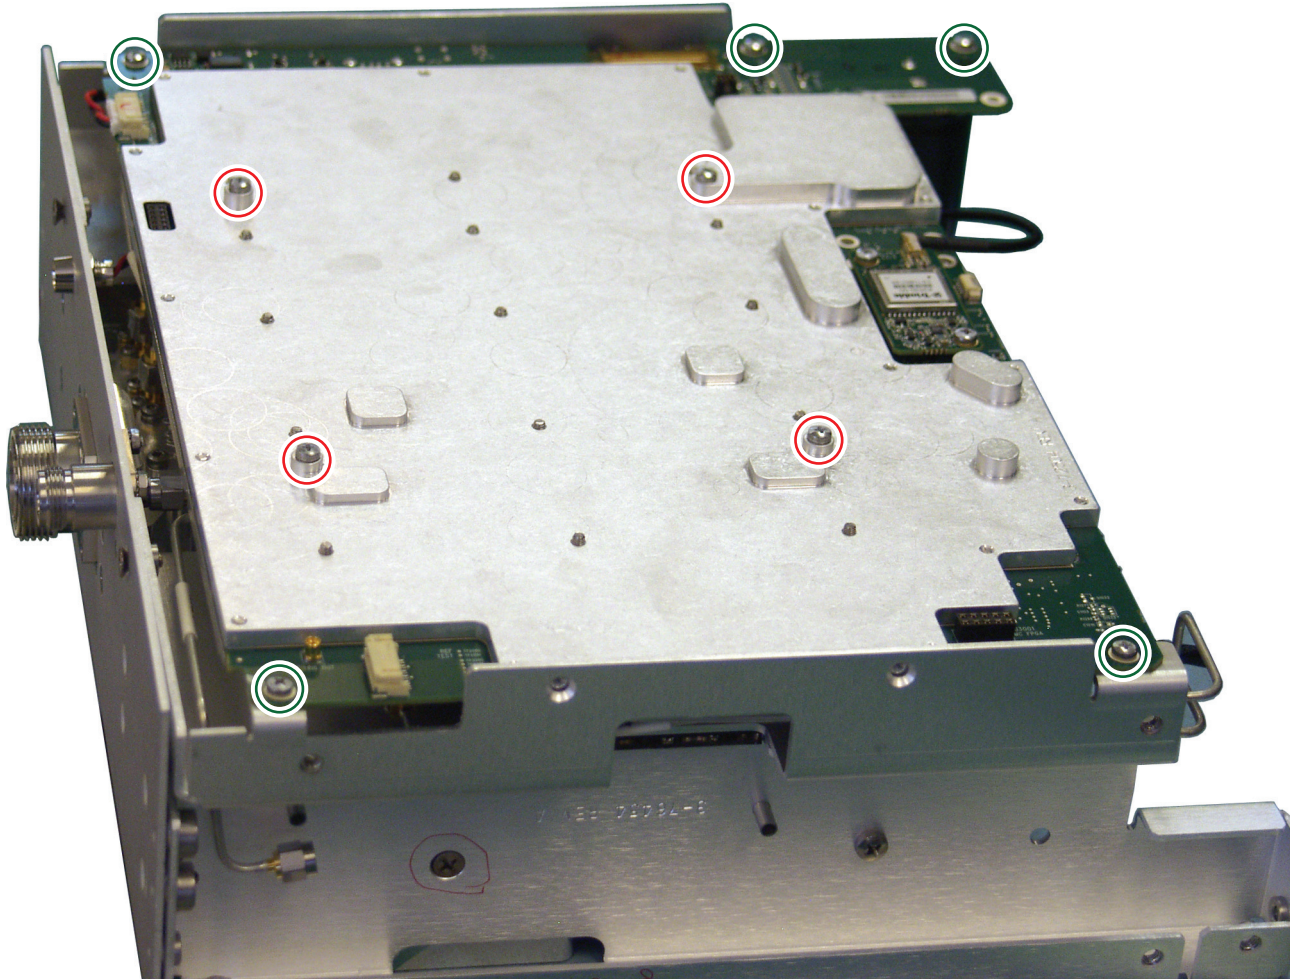

Figure 5-34. Remove and Replace Motherboard
14. Remove the five M3 x 6 screws on the perimeter (shown in Green) holding the motherboard to the chassis and the four M3 x 35 mm (shown in Red) holding the motherboard to the RF assembly (Figure 5-34). Also see Figure 5-8, “Main PCB Attachment” on page 5-10. Filter removal is not required if only the motherboard is being changed.